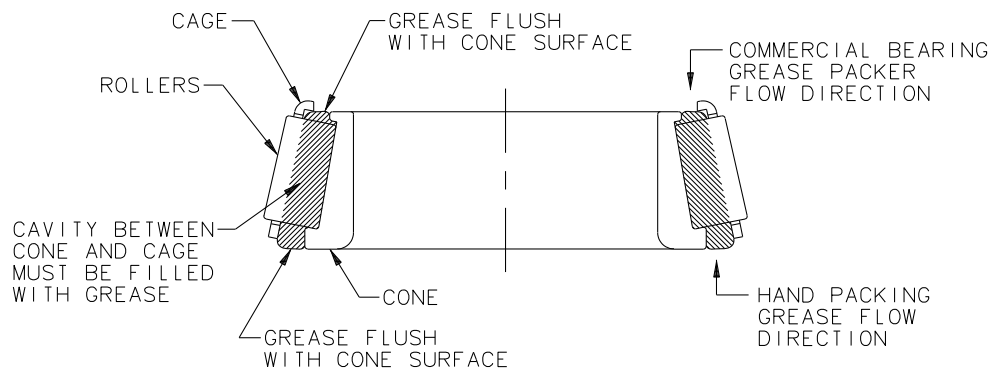

Figure 1, Packing Bearing Cones
- Refer to Figure 1 and pack the bearing cone with grease.
- Force the grease up between rollers, cone and cage, making sure that all voids inside the cone are filled (see Figure 1). Also, make sure that a generous amount of grease is applied to the roller surfaces on the outside of the cone.